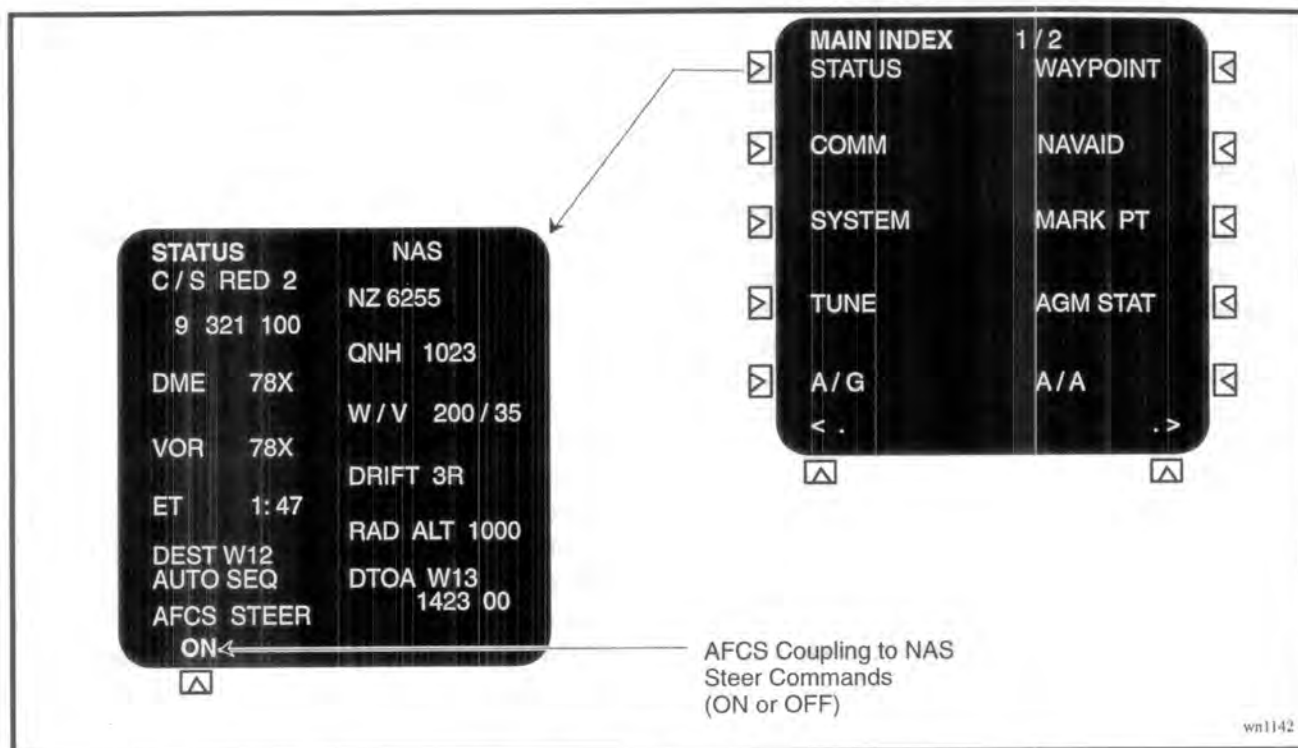
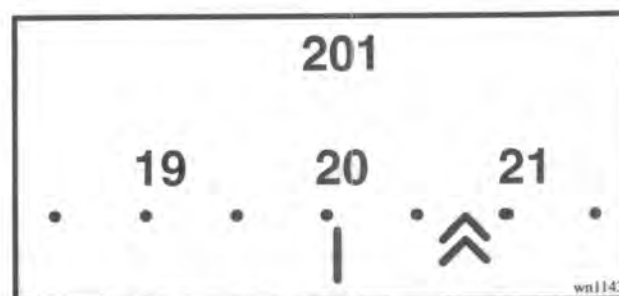

Figure 1-30 AFCS Steer Selection
Figure 1-31 HUD Heading Scale with AFCS STEER Caret
1.241 NAS-coupled steering is engaged by selecting the AFCS ENGAGE switch to **ENGAGE** and toggling the AFCS STEER option on the DU STATUS page to **ON** (Figure 1-30) using the key immediately below the AFCS STEER legend. Provided a valid TAE signal is available the NAS-coupled mode will then be engaged. This will be indicated to the pilot in the HUD by the steering caret below the heading scale changing to a double caret (Figure 1-31).